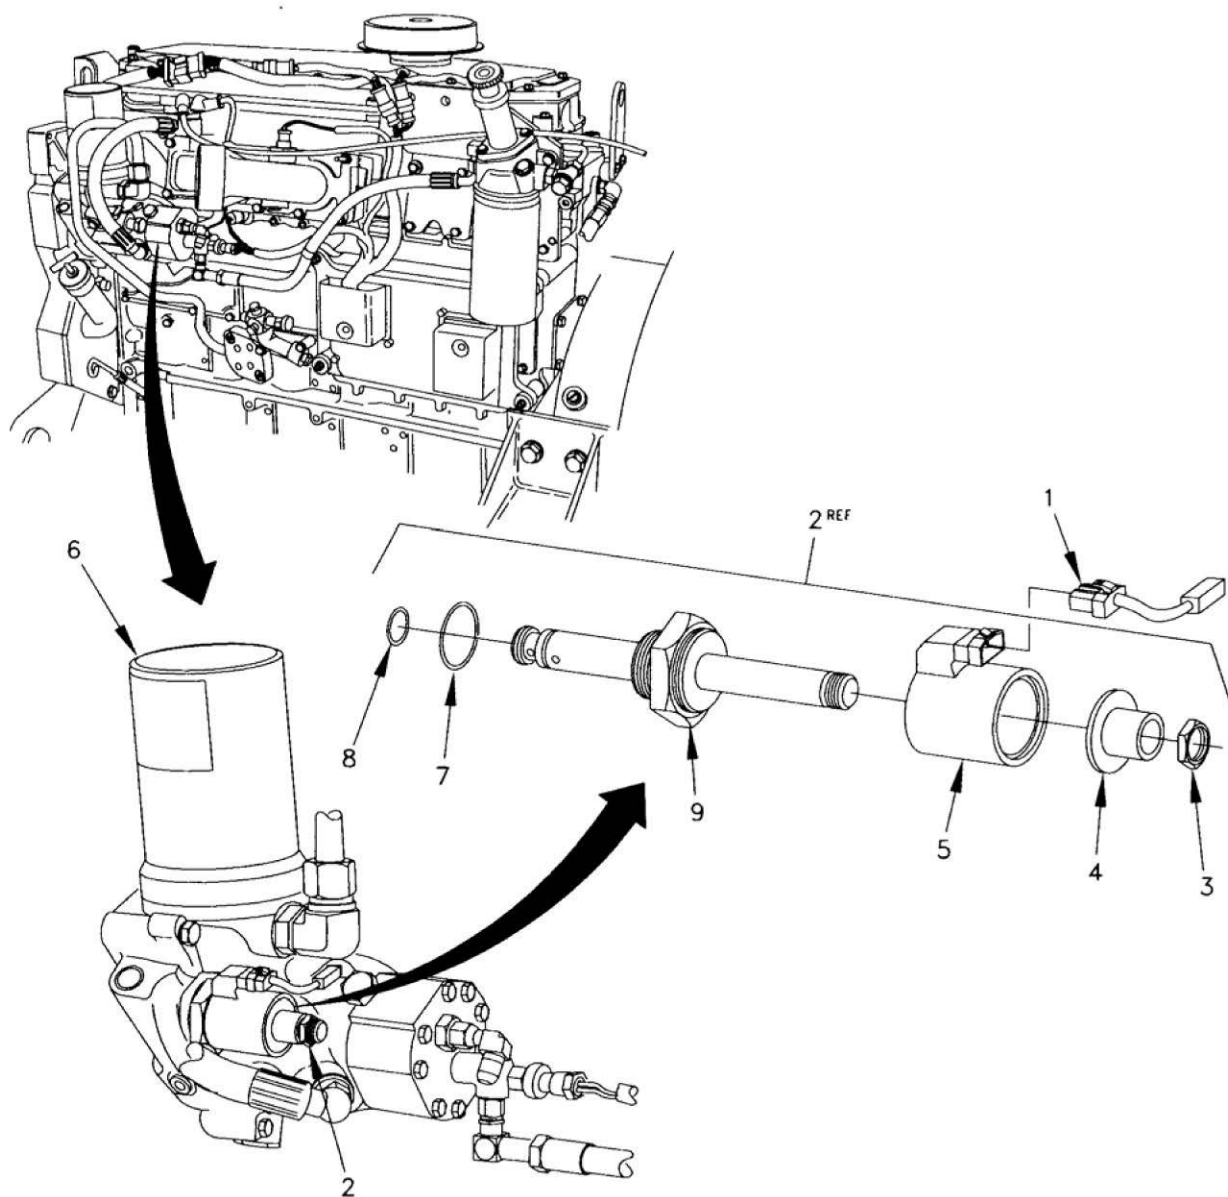

Figure 2. Injection Actuation Pump Control Valve.
2. Tag and disconnect engine wiring harness connector C3 (Figure 2, Item 1) from injection actuation pressure control valve (IAPCV) (Figure 2, Item 2).
3. Remove nut (Figure 2, Item 3), spacer (Figure 2, Item 4), and solenoid valve (Figure 2, Item 5) from IAPCV (Figure 2, Item 2).
4. Remove IAPCV (Figure 2, Item 2) from fuel transfer pump (Figure 2, Item 6).
5. Remove O-rings (Figure 2, Items 7 and 8) and backup ring (Figure 2, Item 9).
2. Lubricate O-rings with clean engine oil and install new backup ring (Figure 2, Item 9), and O-rings (Figure 2, Items 7 and 8) on IAPCV (Figure 2, Item 2).
3. Install IAPCV (Figure 2, Item 2) into fuel transfer pump (Figure 2, Item 6). Torque to 37 ± 4 lb•in. (50 ± 5 N•m).
4. Install solenoid valve (Figure 2, Item 5) and spacer (Figure 2, Item 4) to IAPCV (Figure 2, Item 2) and secure with nut (Figure 2, Item 3). Torque nut to 49 ± 13 lb•in. (5.5 ± 1.5 N•m).
5. Remove tag and connect engine wiring harness connector C3 (Figure 2, Item 1) to IAPCV (Figure 2, Item 2).